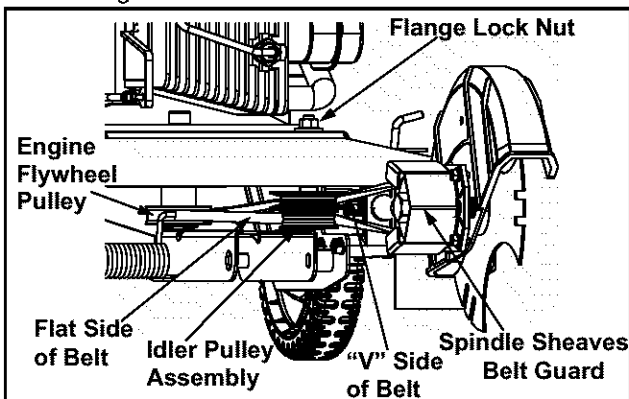

Figure 15
- Working in front of the edger, loosen the flange lock nut on top of frame, allowing the idler pulley assembly to pivot slightly out from the frame. See Figure 15.
**IMPORTANT:** To aid in reassembly, note the orientation of the drive belt on the two idler pulleys and the engine flywheel pulley prior to performing the following steps. Refer to Figure 15.
**IMPORTANT:** Make certain that the "V" side of the belt is seated into the top pulley and the flat side of the belt is seated into the bottom pulley. See Figure 15.